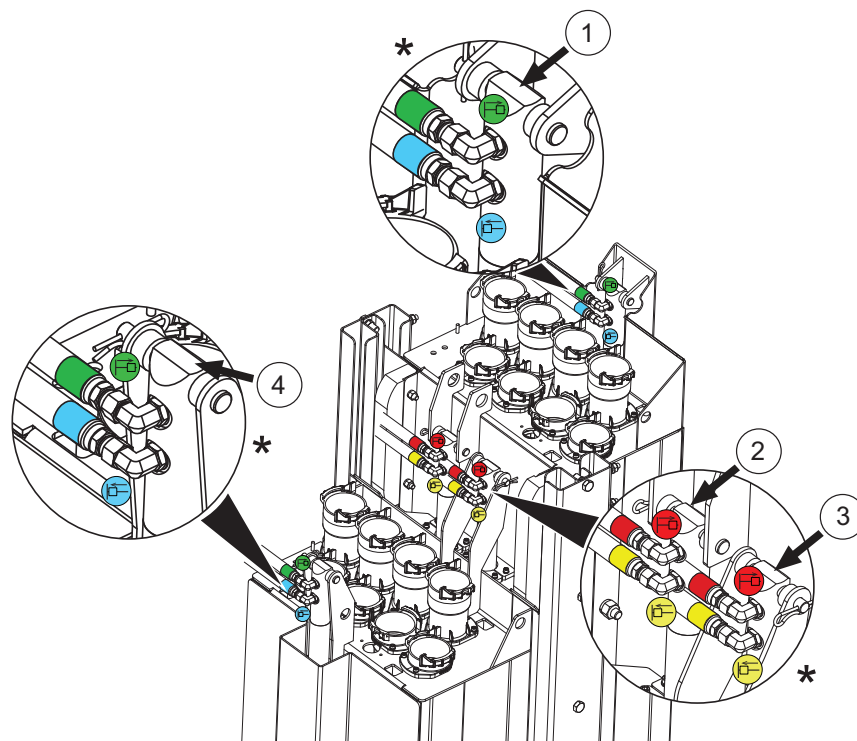

Figure 9 Hydraulic Hose Connections
* Refer to Figure 9 for connection locations.
(Refer to Figure 9).